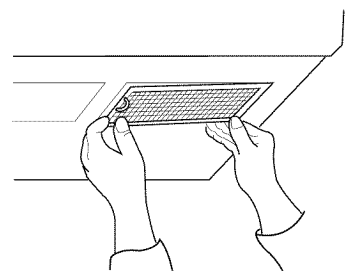

Figure 35
9. Grasp filter screen with one hand holding the ring and the other hand holding the opposite end. Insert the end of the filter screen without ring into the opening and slide towards the side of the microwave oven. Insert ring end of filter screen into the opening and slide entire screen towards the center of the microwave until screen is securely in position. Repeat for other filter screen. See Figure 35.